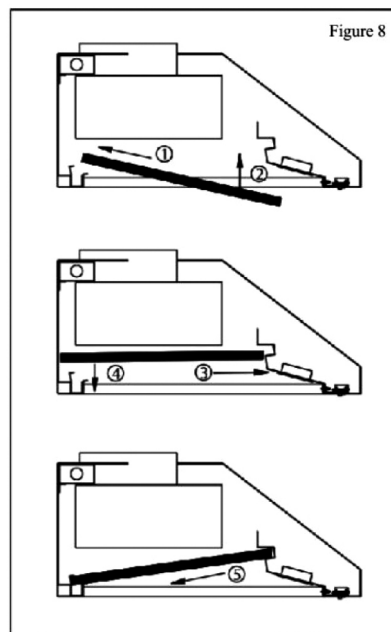

Figure 8
10. To install stainless steel baffle filters, refer to Figure 8 for the following five steps: